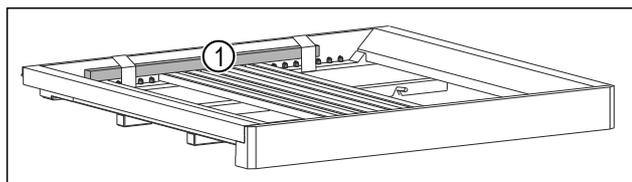

Fig. 7*
- ▶ Remove the wooden stick Fig. 7 (1).*